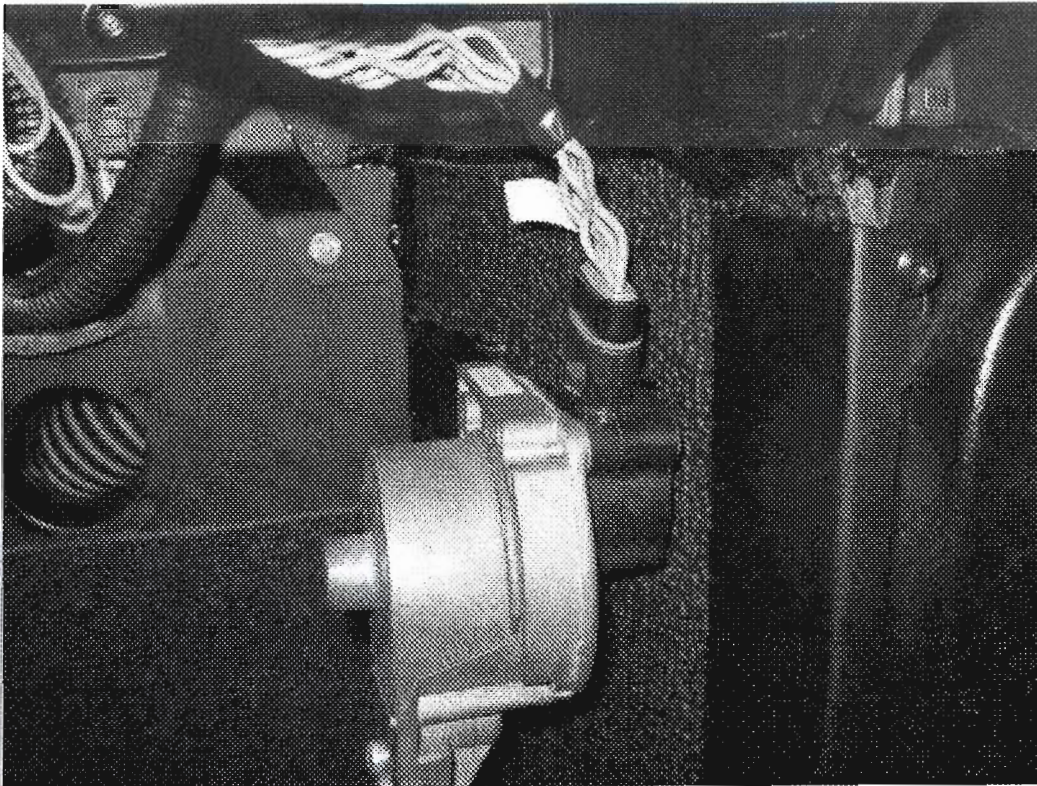

FIGURE 1
3. Disconnect the wiring harness from the accelerator pedal assembly. **Figure 1**